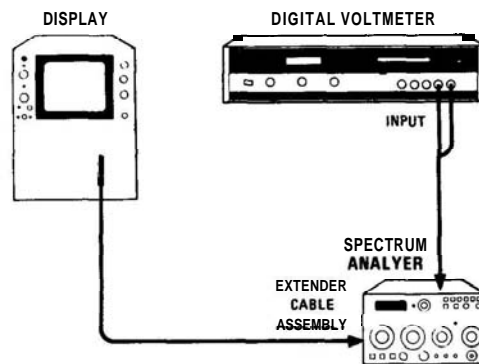

FIGURE 5-1. POWER SUPPLY CHECKS AND ADJUSTMENT TEST SETUP
1. Connect equipment as shown in Figure 5-1. Install Frequency Control Assembly A7 on extender board and connect digital voltmeter to A7TP3 $+14.5\text{V}$.